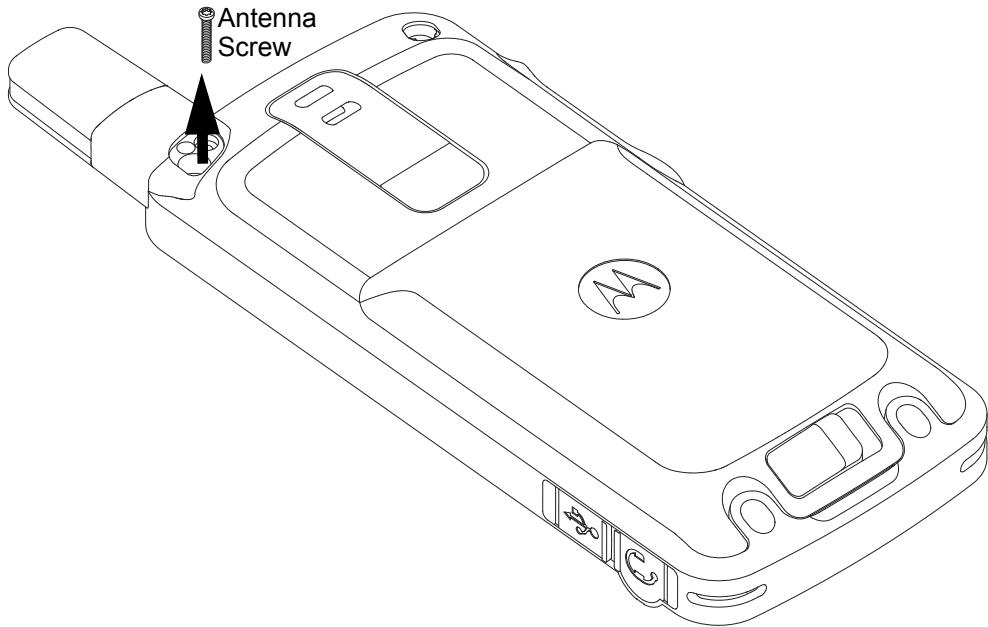

Figure 5-2. Antenna screw removal
3. Remove the antenna screw with the 4IP Torx Plus screwdriver as shown in Figure 5-2.